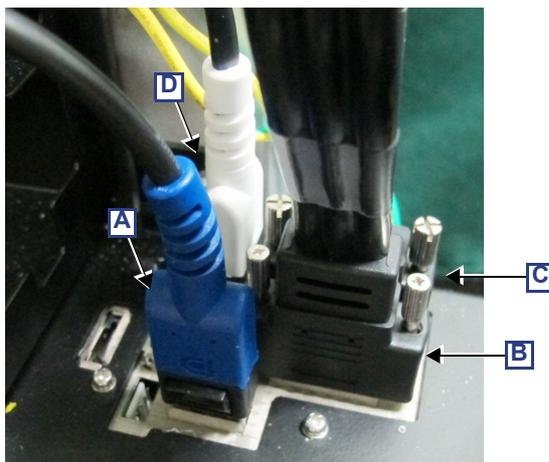

Figure 8-179 Internal Distribution Panel Cables
- 6.) Disconnect the cables from the Internal Distribution Panel (see Figure 8-179) as follows: